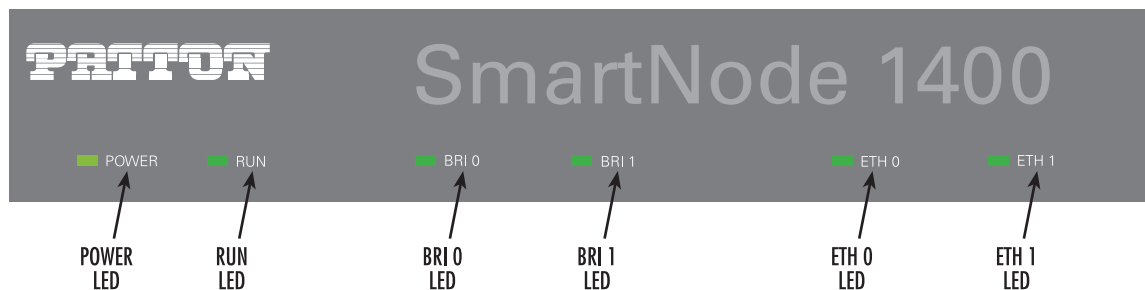

Figure 52. SmartNode 1400 front panel LEDs
4. Verify that the green *Power* LED is lit (see figure 52).